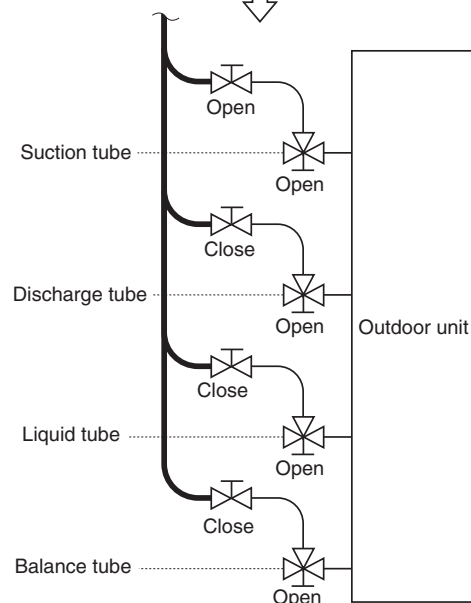

Fig. 6-6
- If the additional refrigerant charge amount cannot be charged at once, charge the remaining refrigerant in liquid form by using the suction tube service valve with the system in Cooling mode at the time of test run. (Fig. 6-6)